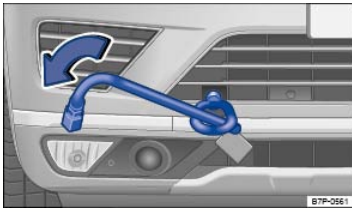

Fig. 225 In right front bumper: Screwing in towing eye.
- Screw the towing eye **counterclockwise** into the threaded hole as far as it will go ⇒ Fig. 225 (arrow) ⇒ . Use the lug wrench to turn and tighten the towing eye.